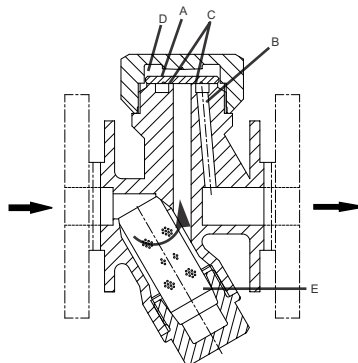

Figure 3 : Forbes Marshall Thermodynamic Trap
4.1. Operation of Forbes Marshall Thermodynamic Trap]: [Refer figure 3]